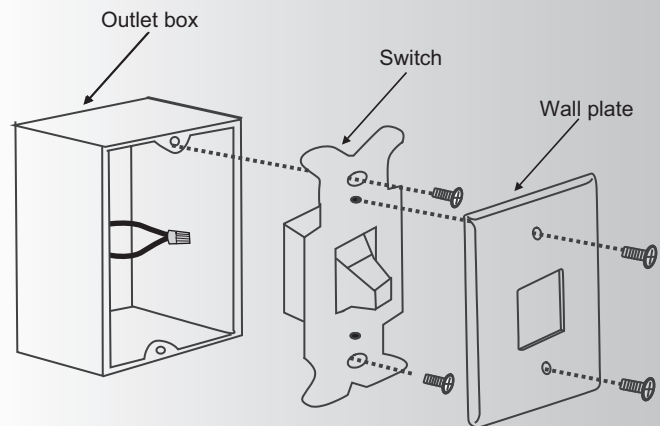

Fig. 20
Step 1. Remove the existing wall plate and the old switch from the wall outlet box. Wire nut the BLACK leads (hot) together and push back inside the outlet box. (Fig. 20)